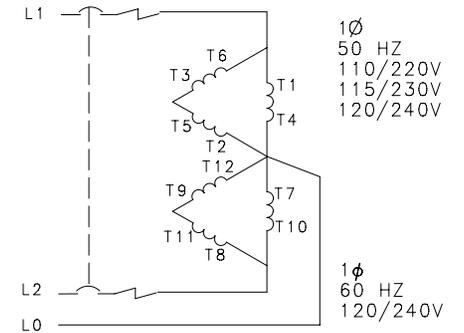

FIGURE 27. GENERATOR RECONNECTION DIAGRAMS
3. Improper generator connections	Reconnect according to Figure 27 (p. 53).
2. Improper generator connections	Reconnect according to Figure 27 (p. 53).